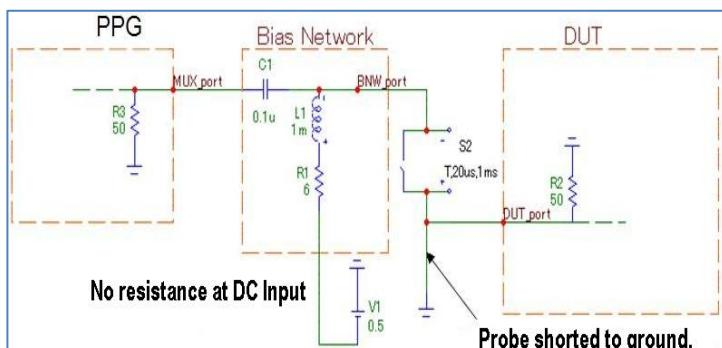
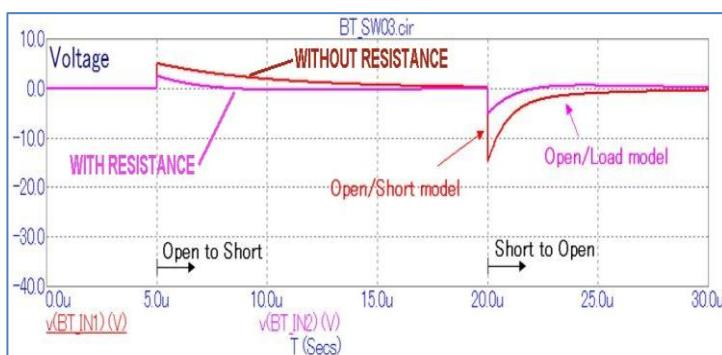

Figure 2. Model with no resistance at Bias-T DC In
Figure 4. Simulated voltage at PPG output
Model Elements (Figures 2 & 3):
Figures 2 and 3 show the modeled circuit with (2) and without (3) an external resistor at the Bias-T's **DC In** port. The simulated behavior of these circuits provided in Figures 4 and 5 show a significant difference between the magnitude of transients **with resistance** and **without resistance** applied at the Bias-T's **DC In** port. Similar observations were made for both voltage and current transients. Without resistance, the PPG is exposed to a potentially damaging voltage transient exceeding  $-10\text{V}$ . Simulations show that the magnitudes of the voltage and current transients are reduced by applying external series resistance to the Bias-T's **DC In** port, even when DC supply has been increased to compensate for the drop across the resistor.